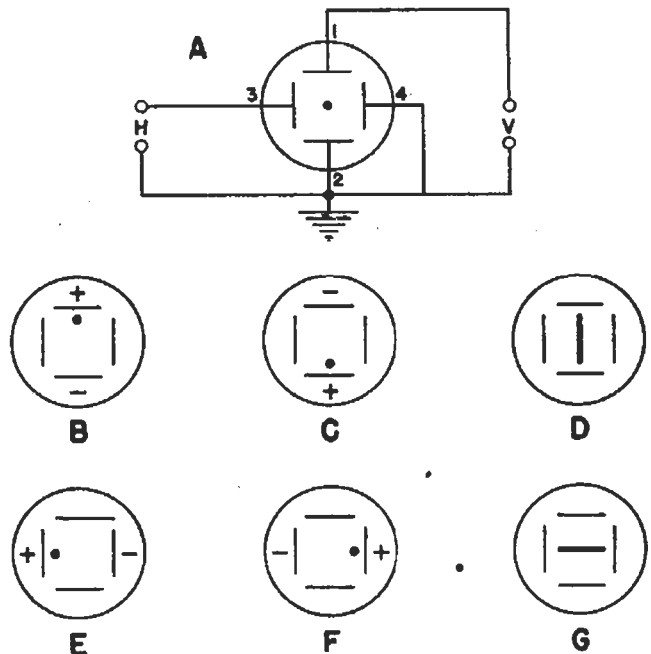

FIG. 4. The result of applying a voltage to just one set of deflecting plates.
► Fig. 4 shows how the position of the spot of light is affected for different deflecting voltages applied to the deflecting plates. At *A* you see a view of the tube as you would see it when looking right at the screen. (The deflecting plates are indicated on the drawing, although they cannot actually be seen from the front of the tube.) The spot here is in the middle between the vertical deflecting plates 1 and 2 which make up and down motions of the spot, and the horizontal deflecting plates 3 and 4 which cause side-to-side motion. (Notice the plates are named for the direction of deflection, not their physical position.)
A voltage on *V*, with none on *H*, making plate 1 positive, moves the spot up as shown in Fig. 4*B*. Reversed polarity sends the spot down as in Fig. 4*C*. An a.c. voltage applied to *V* will obviously keep the spot moving up and down in a line, as in Fig. 4*D*. If the spot moves faster than 16 times a second, the persistence of vision in the human eye makes us see a solid line instead of a moving spot.
Figs. 4*E*, 4*F* and 4*G* show what happens to the spot if the voltage is applied to the horizontal plates instead of the vertical plates. The solid line formed by an a.c. voltage is now from side to side rather than up and down. Since the length of this line is proportional to the peak of the applied voltage, the voltage can be measured by comparison with a known voltage, or by actual calibration in terms of the length of the line.